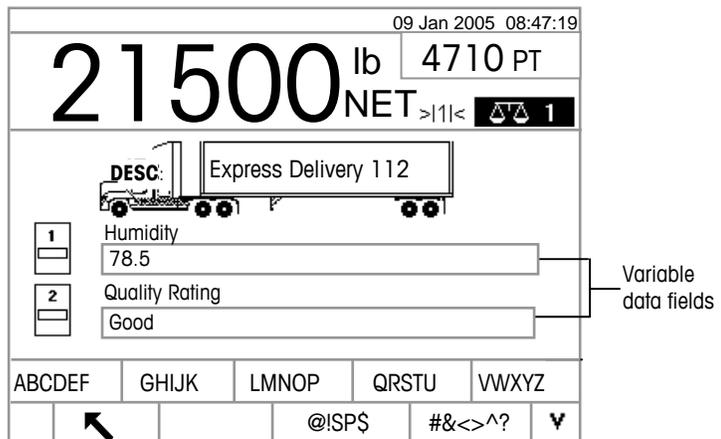

Figure 2-14: Variable Data Entry Screen
6. If variable data entry has been enabled, variable data fields display. Variable data field names are enabled in the application setup. For example, in Figure 2-14 humidity is enabled as Variable 1 and quality is enabled as Variable 2. Use the alpha keys and the numeric keypad to enter variable data.